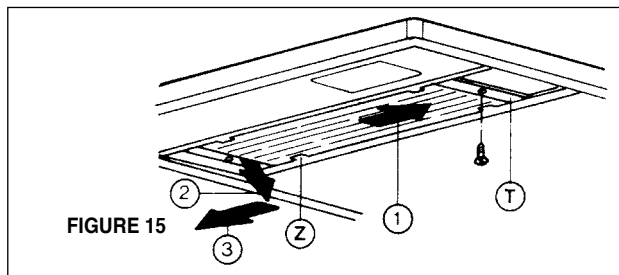

FIGURE 15
Before replacing a lamp, turn off the lamp switch to prevent an injury. To replace a halogen lamp (FIGURE 15), remove the diffuser clips (T) on both ends of the stainless steel lamp panel. Carefully slide the panel all the way to the right. Lower the left end of the panel below the support flange (Z), then remove the panel by sliding it back to the left. Remove the lamp by pressing the bulb from the rear. Replace the lamp. Replace the lamp panel by reversing these directions.